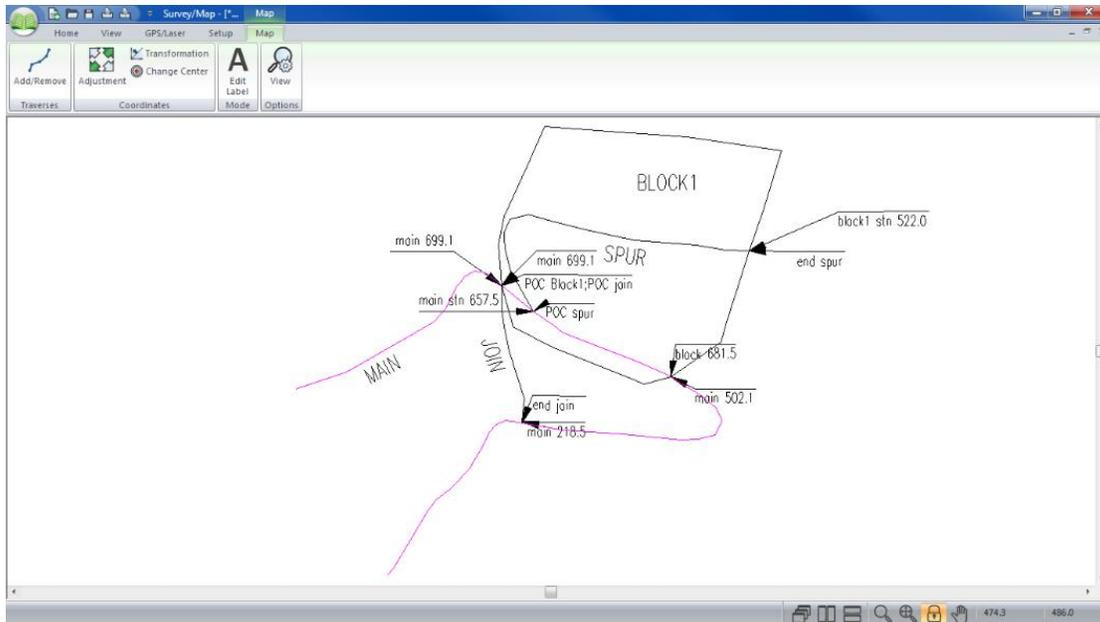

Figure 5-15: *method2.map* after Adjusting *join.tr1*
- Now press the *Delete* button and press *Apply*. The final adjustment will now look like Figure 5-15, because the previous **main** adjustments in the list now take effect.